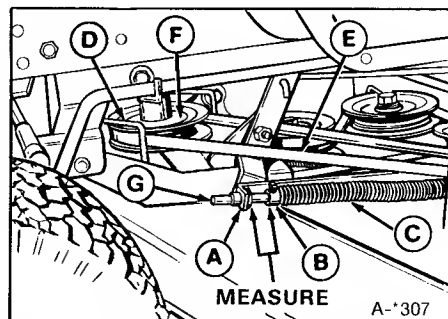

Figure 32. Mower Belt Adjustment
2. Measure the distance between the PTO rod guide (A, figure 32) and the set collar (B). For the 36" mower, the measurement should be 3/8 to 1/2 inch (10 to 13 mm). For the 42" & 48" mower, the measurement should be one inch (25.4 mm).
4. Loosen the setscrew in the set collar (B). Move the rod (G) forward to increase gap, or backward to decrease gap. Retighten the setscrew.
There are two belt stops at the PTO pulley; one on the left (D, figure 32) and one on the